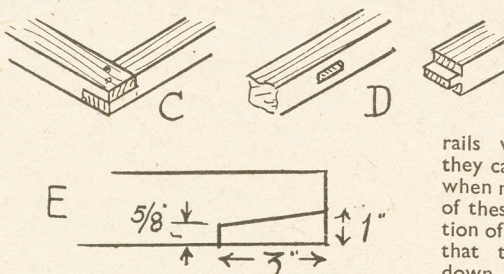

Fig. 3—Joints used in the framework
At Fig. 3 (E) a diagram is given to show how to cut the tops of the legs to give the necessary splay to them. Shallow grooves,  $\frac{1}{4}$  in. deep, are cut in the top bars, at 2 ins. in from the ends, into which the legs are firmly glued and screwed. The rails are cut to length and nailed across.